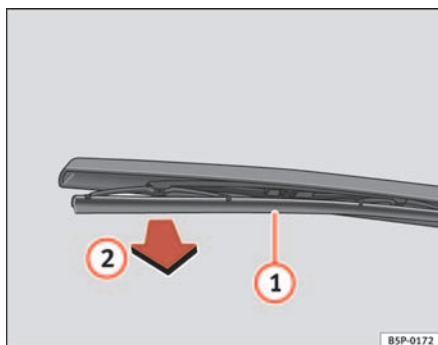

Fig. 141 Changing the rear window wiper blade
- Lift the wiper arm away from the glass ⇒ fig. 141.
- Unclip the wiper blade ① and pull ② ⇒ fig. 141.